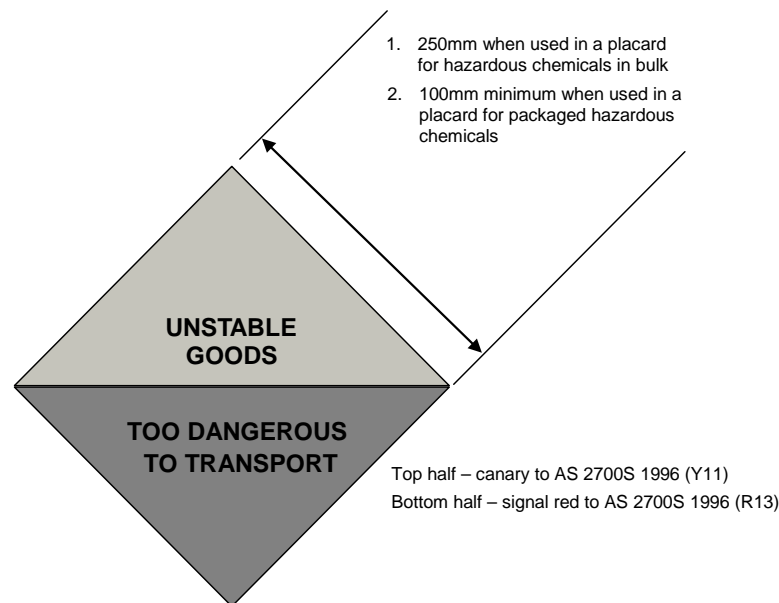

Figure 3 Label for unstable explosive, organic peroxide type A or self-reactive substance type A
- d. in space (s)—the label in figure 3.
For space (s), the label in figure 3 must have sides of not less than 250mm.
- c. for an unstable explosive, organic peroxide type A or self-reactive substance type A—the label in figure 3.